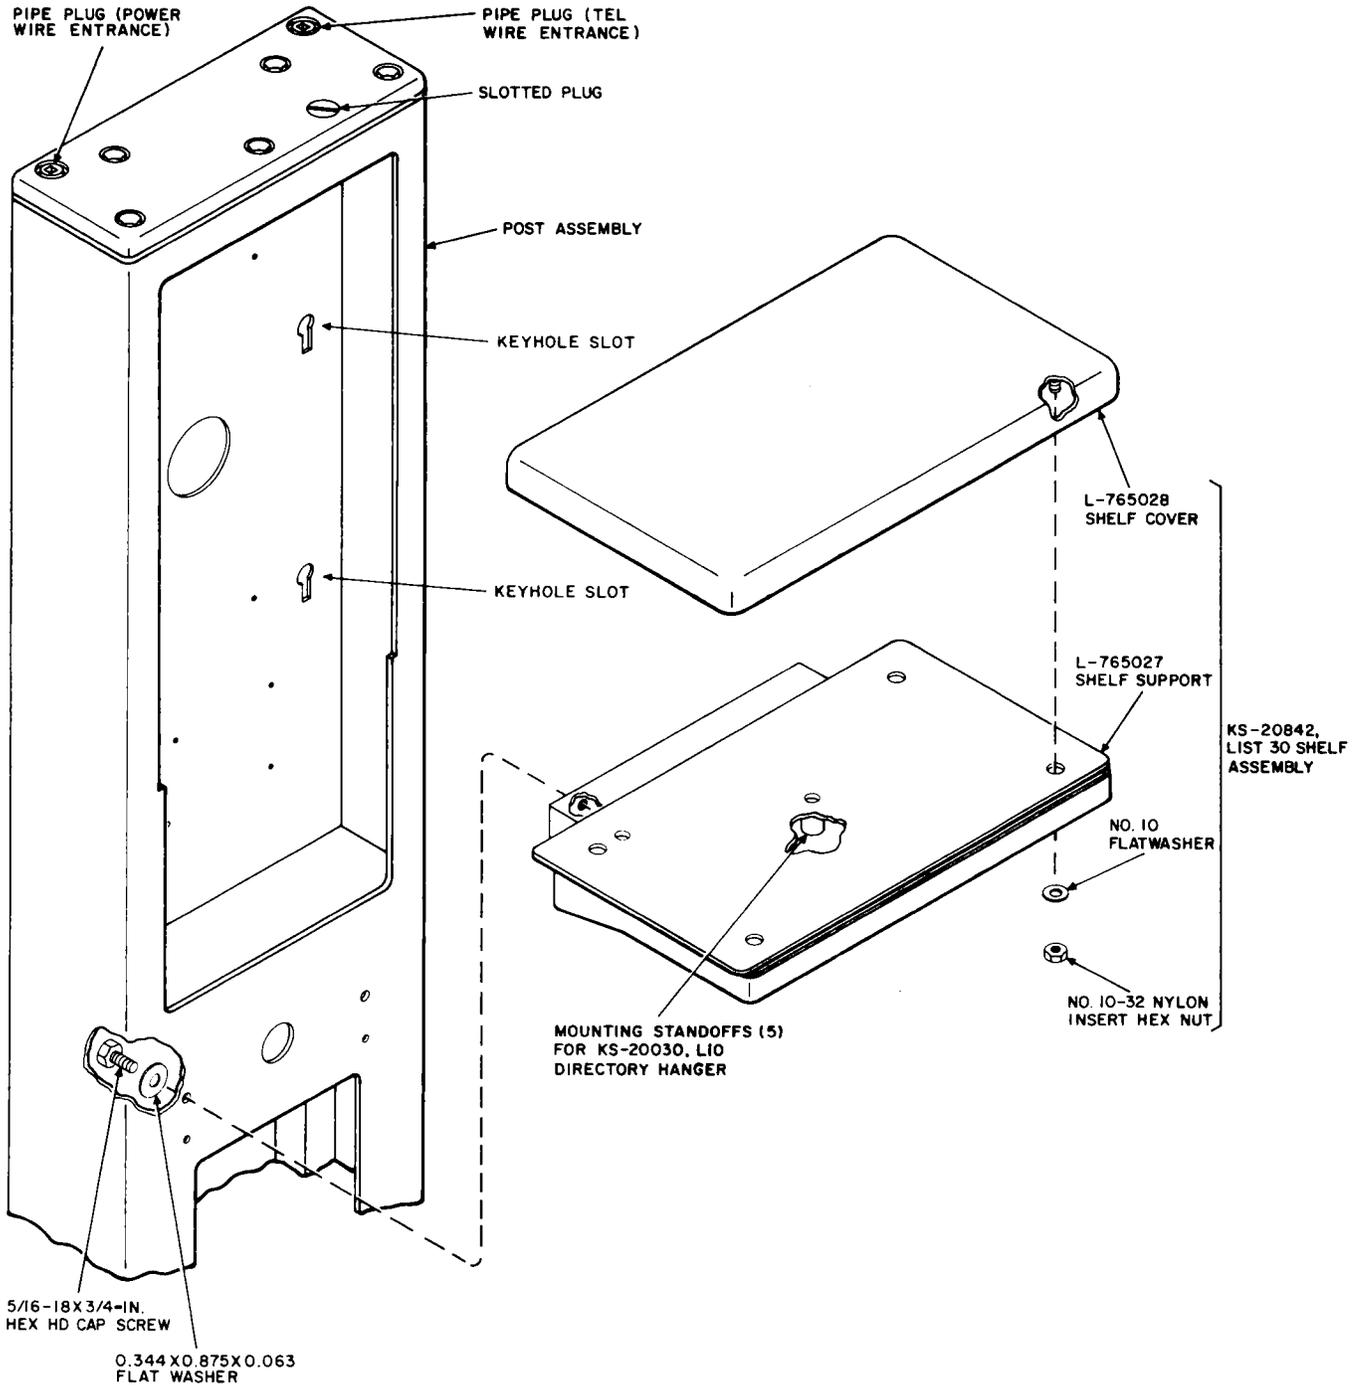

Fig. 23—Installation of List 30 Shelf on Post
3.24 *List 30 Shelf Assembly (Fig. 23).*
(b) Align the holes in the rear of shelf with mounting holes on front of post (Fig. 23). Using the hardware removed in (a) secure shelf to post.